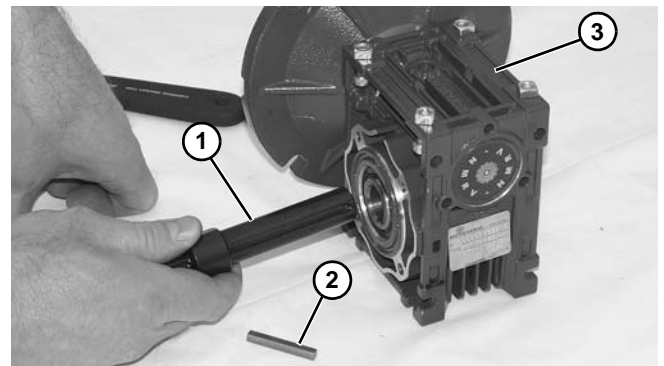

Figure 24
9. Remove driveshaft (**Figure 24, item 1**) and key (**Figure 24, item 2**).
10. Replace gear reducer (**Figure 24, item 3**).
- Replace the original shaft components into new gear reducer (**Figure 24**).